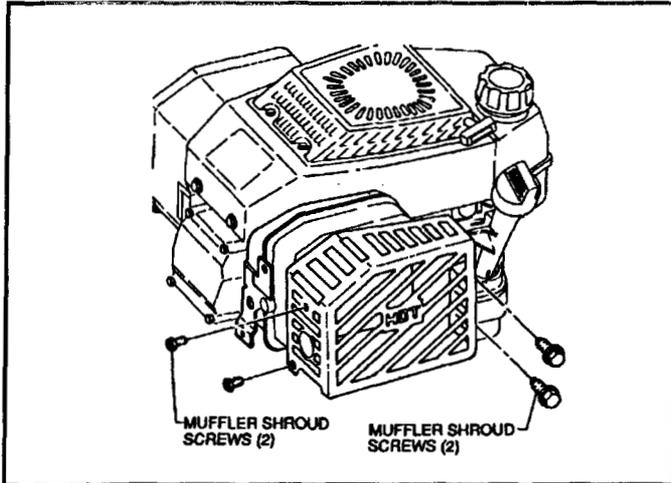

Figure 101
2. Install two 5/16" hex, cap screws in the front of the muffler shroud. Torque the screws to 35 in lbs (4 Nm). See Figure 101.